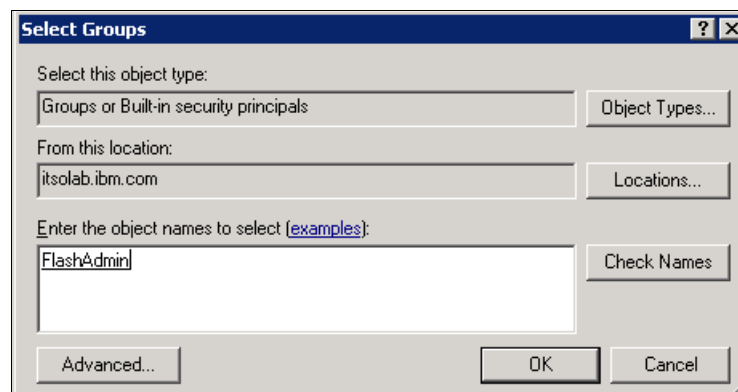

Figure 7-15 Active Directory Select Groups window to add users to the FlashAdmin group
4. In the Select Groups window, type FlashAdmin and click **Check Names** (Figure 7-15).